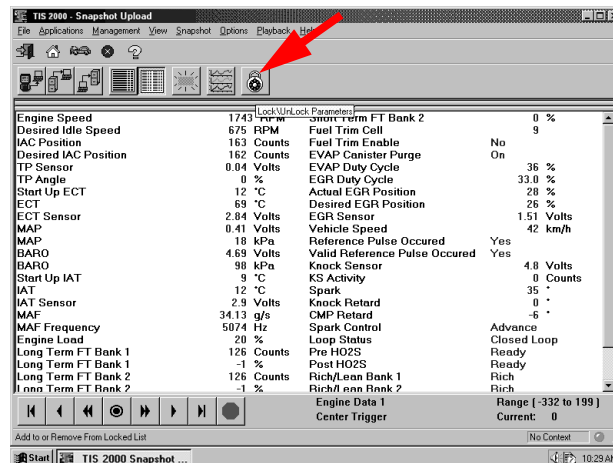

FIGURE 8-49. Lock/Unlock Parameters Icon on SSnapshot Upload Screen
The screen changes to display the chosen parameters in graph form (Figure 8-49).
6. Click and drag on the arrow along the bottom of each graph to move through the graph (Figure 8-49).